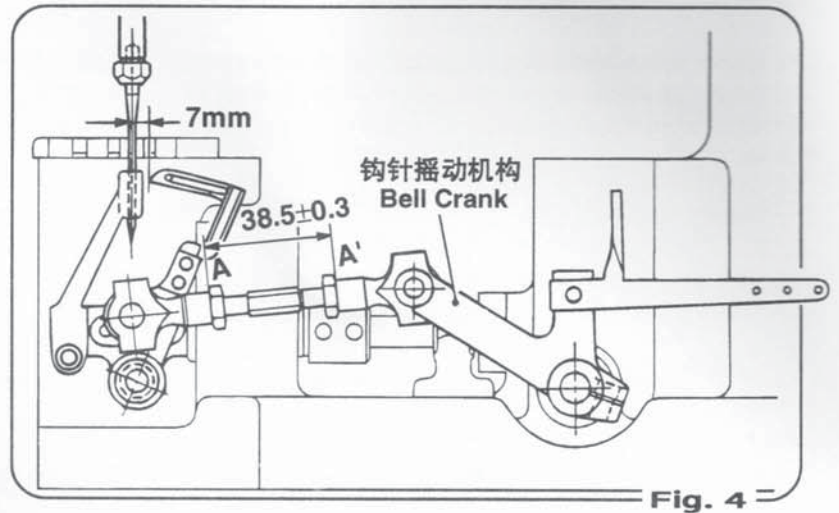
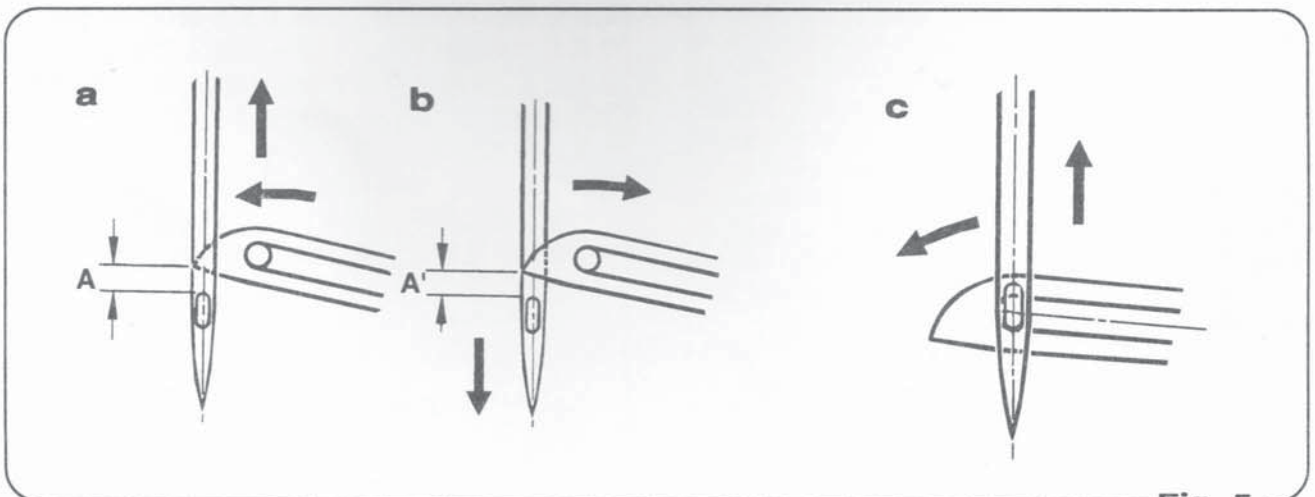
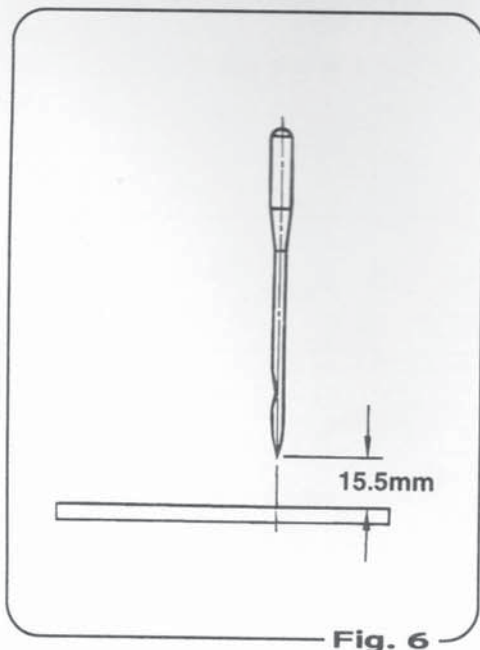

Fig. 4
Fig. 5
Fig. 6
Presser foot pressure must be adjusted according to the material of bag and thickness. Check the reverse side of seams. The pressure is too strong if seams show a sign of scratches by feed dog teeth, or the actual stitch length is shorter than the preset feed rate of feed dog teeth. In this case, unscrew plate spring adjust screw (102171), Figure 4, after loosening nut (5/16N24301). Be sure to tighten the nut after the adjustment. If the pressure is too weak, seams do not form a straight line, or the stitch length is irregular. In this case, increase the pressure by screwing the plate spring adjust screw. Decrease the pressure when closing jute and other heavy bag material, and increase it when closing PP woven cloth and other light bag material. Your machine is adjusted for 3-ply kraft paper bags at the factory.
- a) Turn the pulley in the forward direction and adjust the bell crank so that the end of the looper is 7mm away from the needle center when the needle is in the most retracted position, as shown in (Fig.4). The distance between the nut (outside) of Looper Connecting Rod must be  $38.5 \pm 0.3$ mm. (Fig.4) Upon completion of the adjustment, tighten the screw of the bell crank.
Needle 5 and looper 1 movements are correctly timed if distance (A and A' of Fig.4) between Looper point and Needle hole when Looper points gets in line with left-side edge of Needle 5 is the same as Looper 1 passes Needle in forward and backward movements.  $A=A' \pm 0.3$ mm is allowable. Adjust by lightly tapping the looper Drive Lever. Looper eyelet should overlap with lower part of oval hole of Needle, as shown in (Fig.5-c.) as looper goes forward. Adjustment can also be done by loosening the set screw of the needle bar connecting stud and adjusting the height of the needle bar so that the end of the needle is 15.5mm from the upper surface of the throat plate as shown in (Fig.6).
预先保持距离(A-A'), 相隔  $38.5 \text{mm} \pm 0.3 \text{mm}$  以内, 而如图所示(图4)装球连杆(#063072AA). 钩针最后退时, 针中心离钩针距离应相隔7mm. 调整钩针摇动机构后, 请无忘拧紧. 注意钩针摇动曲轴不要松动.
由于调整钩针尖头应准缝针孔中心线上. 请将钩针前进或后退而调整位置. 钩针和缝针交叉时候, 从钩针尖头到缝针穴的距离, 如图所示(图5-a/b), 须要确保一定的(A=A')尺寸. 尚有  $A=A' \pm 0.3 \text{mm}$  容许限度.
- \* A=A' 尺寸确认后(图5-C), 为了钩针穴下面和针穴下面要合在一起, 请将针棒抱合(#032171)放松螺钉而调整针棒高度.
- \* 预先如图所示(图6), 针上升到最高位置时, 针至针板距是15.5mm, 将针棒高在那地点定下, 以后调整工作容易进行.